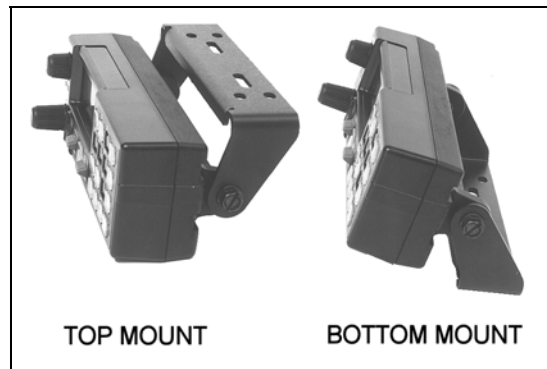
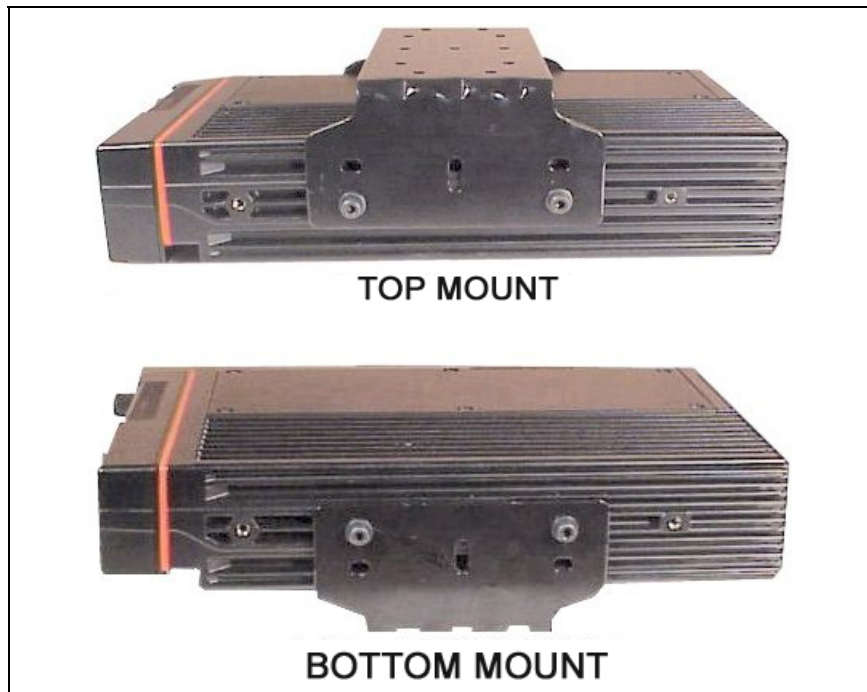
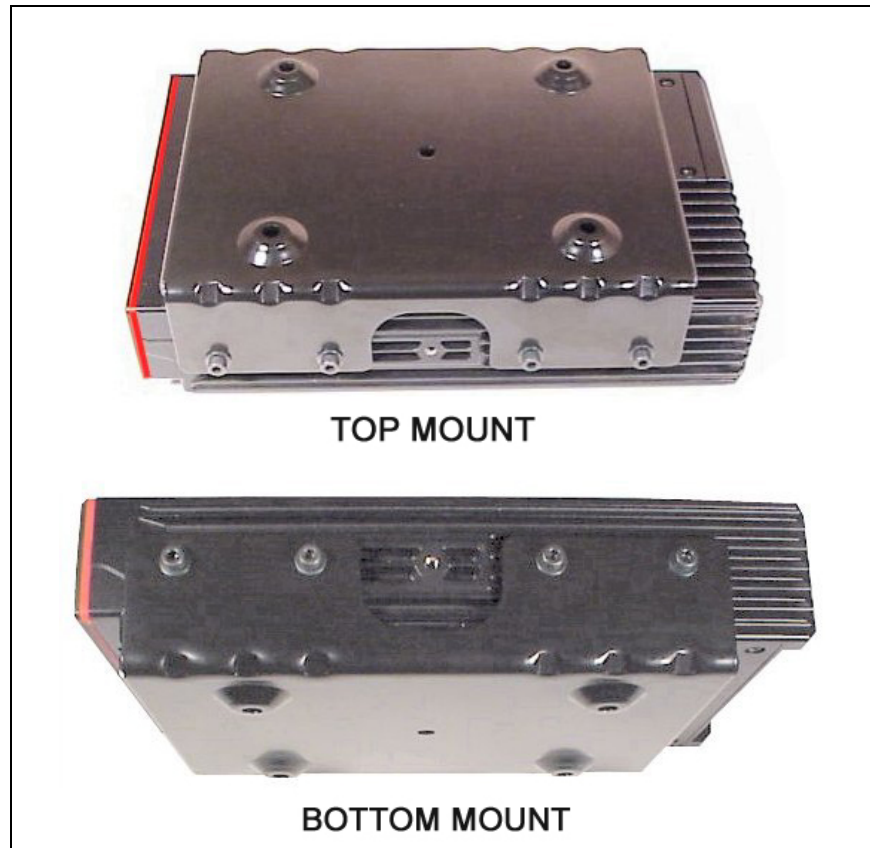

Figure 12 – Control Unit Mounting Bracket Installation
Figure 19 – Mounting Bracket Installation
Figure 20 – Remote Mounting Bracket Installation
1. Using the bracket as a template, mark and drill the mounting holes. Be sure to leave enough room at the rear of the control unit for the cable connector. Refer to Figure 12 for control unit mounting bracket installation.
Typically, the bracket shown in Figure 19 is used for Front Mount applications. The bracket can be mounted so that it is either above or below the radio for the user's convenience. The bracket pictured in Figure 12 can also be used for Remote Mount applications. The following instructions are for a Front Mount installation using the bracket shown in Figure 19.
The bracket shown in Figure 20 is used in Remote Mount configurations. In some applications, the bracket shown in Figure 19 can also be used for
Remote Mount installations. The following instructions are for a Remote Mount installation using the bracket shown in Figure 20.
3. Slide the radio unit into the bracket by aligning bracket guides with grooves on each side of radio (rear of radio should be inserted first). Slide radio back until screw holes in front of bracket align with screw holes in side of radio. See Figure 20.